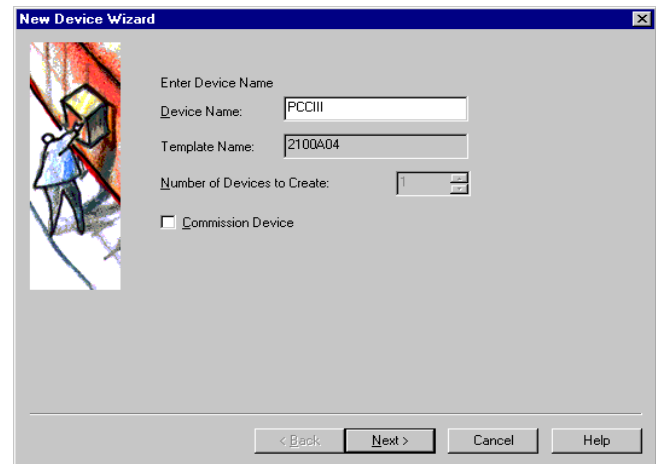

FIGURE 4-10. NEW DEVICE WIZARD DIALOG
2. Enter a device name in the New Device Wizard dialog (see Figure 4-10).